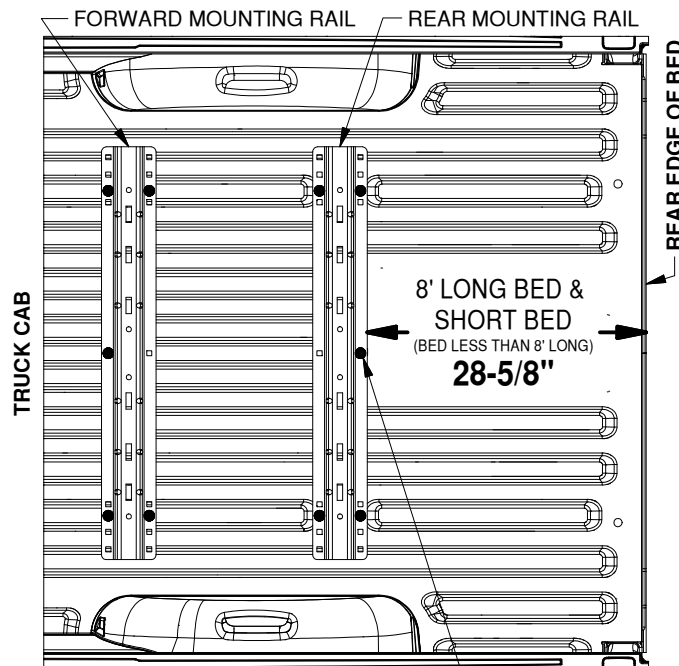

Figure B1: Detail view over bed, showing drill locations for the forward and rear bed rails. DRILL LOCATIONS HIGHLIGHTED BY BLACK DOTS
- Layout the rear mounting rail.** Place a mounting rail onto the bed of the truck. Hook a tape measure over the rear edge of the bed (not on any part of the tailgate), measure the location for the mounting rail as shown in Figure B1. Next, center the mounting rail in the bed by measuring the distance on either side from the edge of the rail to the sides of wheel wells. The rail will be centered when both measurements on either side of the rail are the same.
- Mark hole locations.** While carefully ensuring the mounting rail does not move, use a center punch tool to mark the 5 drill locations on the rear rail. See Figure B1 for hole marking locations for this installation (forward rails will install on a later step). Once all 5 rear rail locations are clearly marked, move the bed rail out of the way and drill each location with an 1/8" drill bit.
2. **Drill forward mounting holes.** Using the same methods as used for the rear mounting rail mark, drill, check, and enlarge the holes for the forward mounting rail. Refer to "ENLARGE HOLES & INSTALL SIDE PLATES" section, steps 1 through 2, on a previous page. Notice that the hole locations are slightly different than the rear rail, see Figure B1 (on the second page).